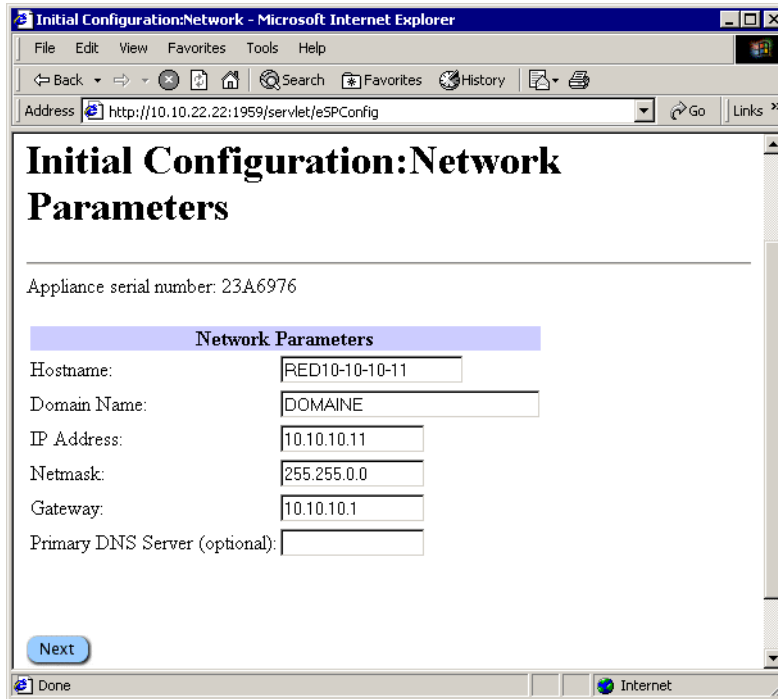

Figure 2-5 Setting complete network settings
- b. Enter your own correct network configuration information and click **Next**; you will see a window like that shown in Figure 2-5: